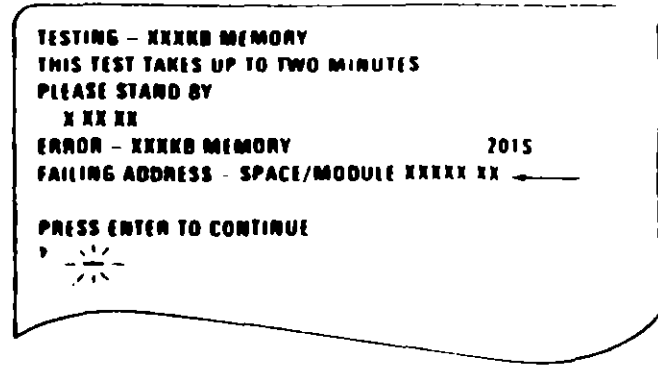

Figure 1. Advanced Diagnostic Error Message
- Note the seven-character error code (XXXXX XX) as shown in Figure 1 on page 0200-3.